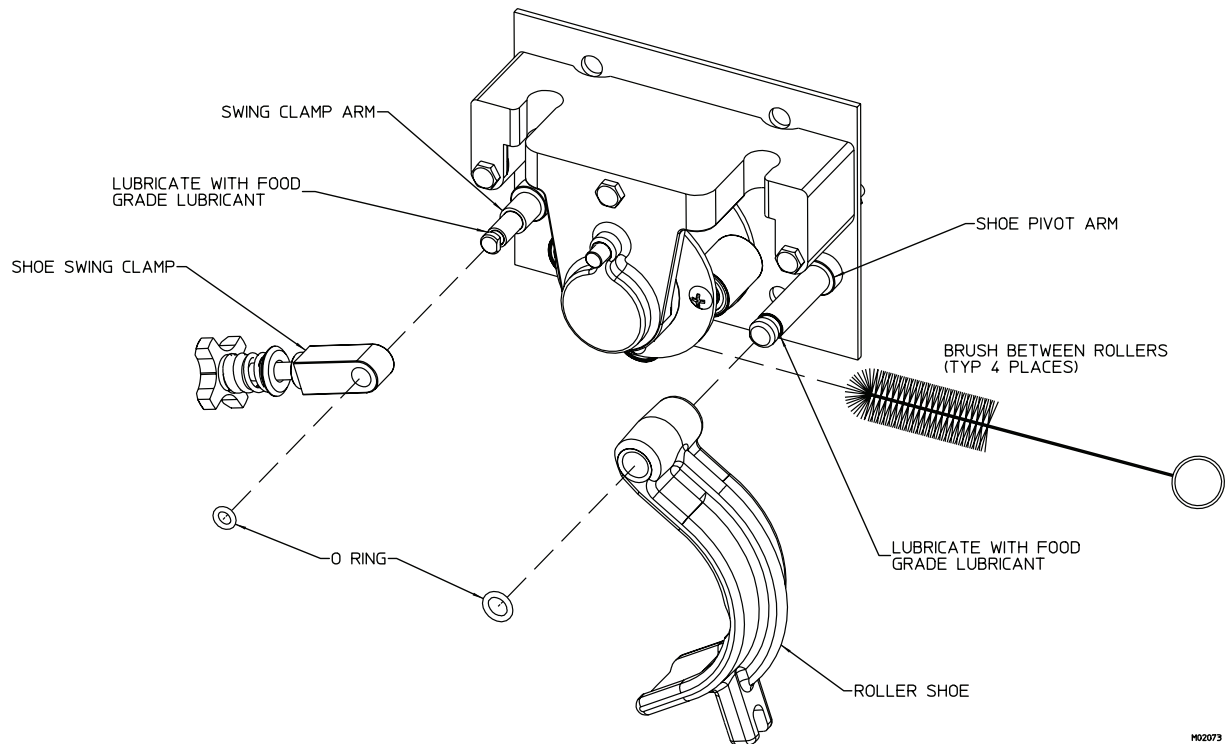

Figure 8-11
1. Remove the o-rings and slide the shoe off of the pivot arm and the swing clamp off of the clamp arm. See figure 8-11.